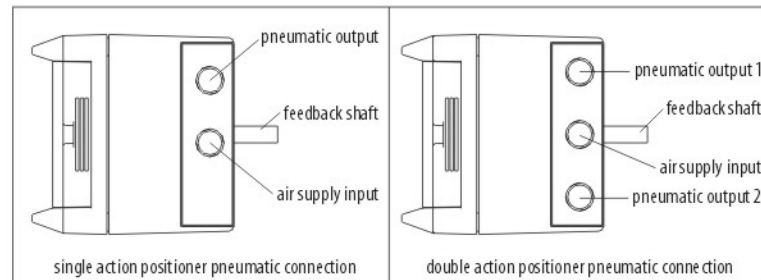

Fig.5 Diagram for pneumatic connection
1. Connect the output of the positioner with the input of the pneumatic actuator according to Fig. 5.